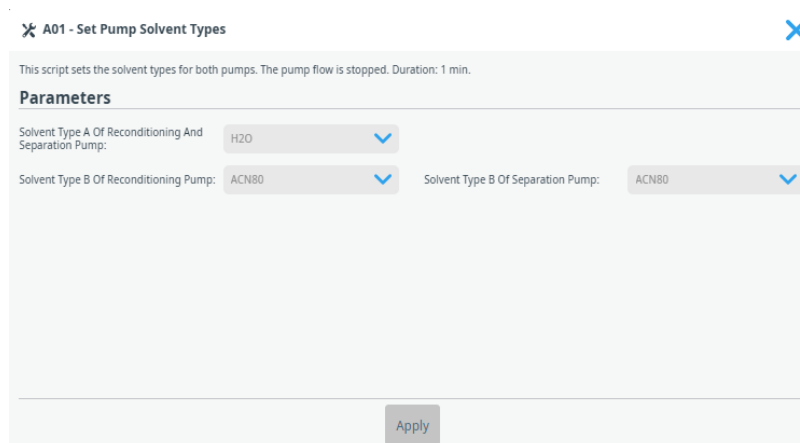

Figure 85: Script A01 dialogue box in tandem workflow configuration
- 1) Set the Pump Solvent Types using script A01. In the tandem workflow configuration, there is only one dropdown menu for solvent type “A” for both the upper (separation) and lower (reconditioning) pump. This limitation ensures no disturbances to the chromatography during the pump handover which occurs between sample loading and gradient delivery. In contrast, the “B” solvents can be set independently for the separation and reconditioning pumps. (see Figure 85)